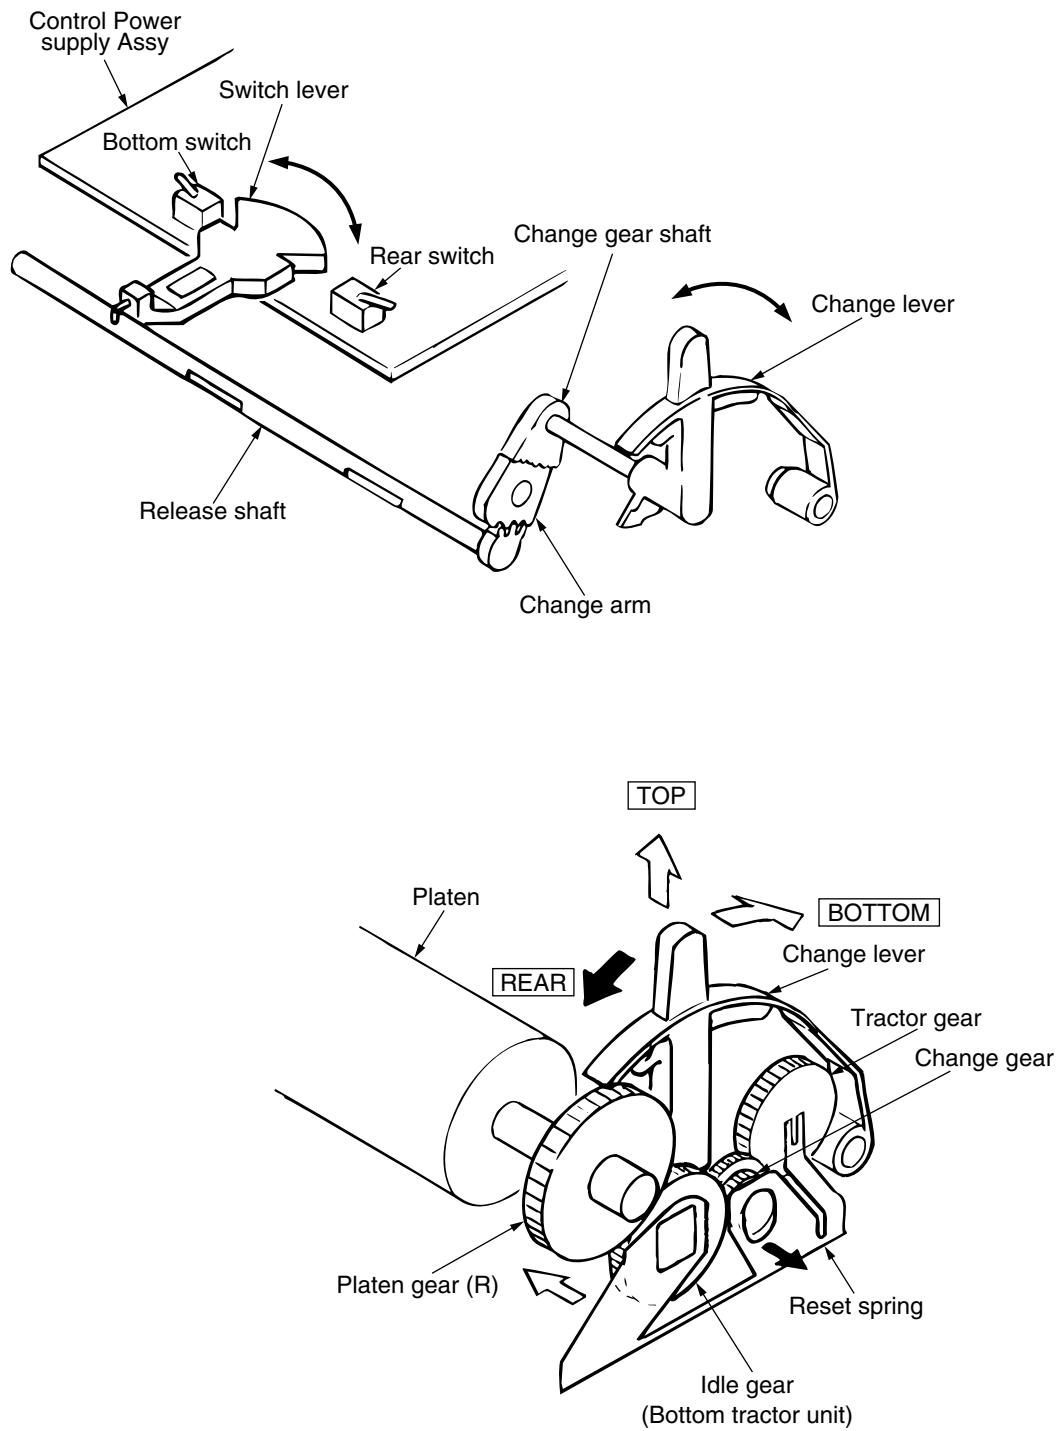

Figure 2-7
(1) Cut sheet and continuous sheet switching mechanism (See Figure 2-7.)